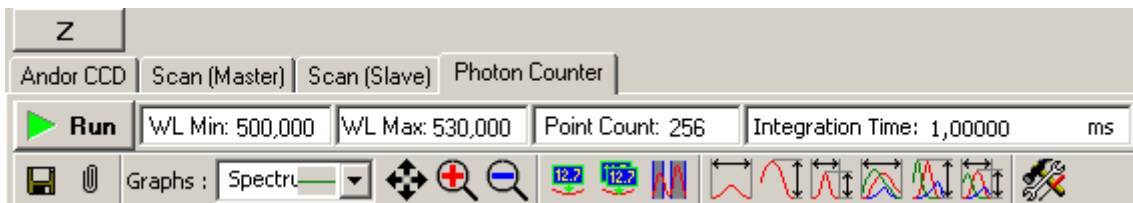

Fig. 12-26. Control panel of the **Photon Counter** tab
2. Adjust the following parameters in the Control panel of the **Photon Counter** tab (Fig. 12-26):
4. Launch the measurement procedure with the **Run** button in the Control panel of the **Photon Counter** tab (see Fig. 12-26). The viewer of the signal distribution starts drawing the plot of signal against the wavelength. On completion of measurements, the viewer displays the plot of the signal distribution over the defined range.
5. Find the wavelength of the signal maximum in the plot. Activate the marker with the **12.7** button (see Fig. 12-26). Drag it with the mouse to the maximum of the plot. The marker will display the abscissa (wavelength) and the ordinate (signal) at the marked point.